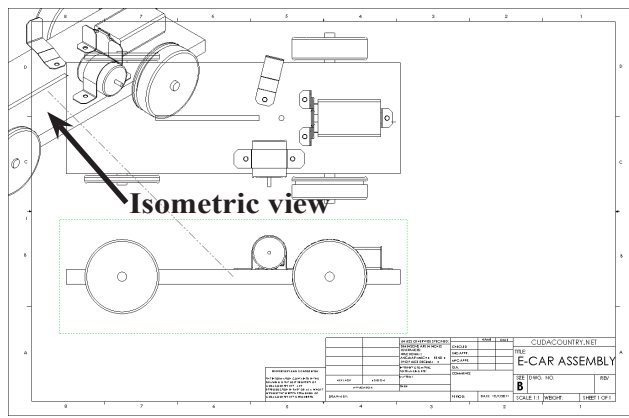

**Fig. 3**
Step 7. **Move the cursor straight up** and click to place the top view as shown in **Fig. 3**. Center the preview between the side view you just placed and the top border line.